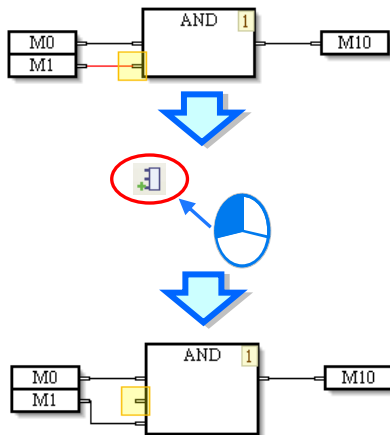

Figure 12-16 Adding a new input pin
- (4) If users select an input pin, and then click , a new input pin will be put on the top of the input pin selected, as shown in figure 12-16.